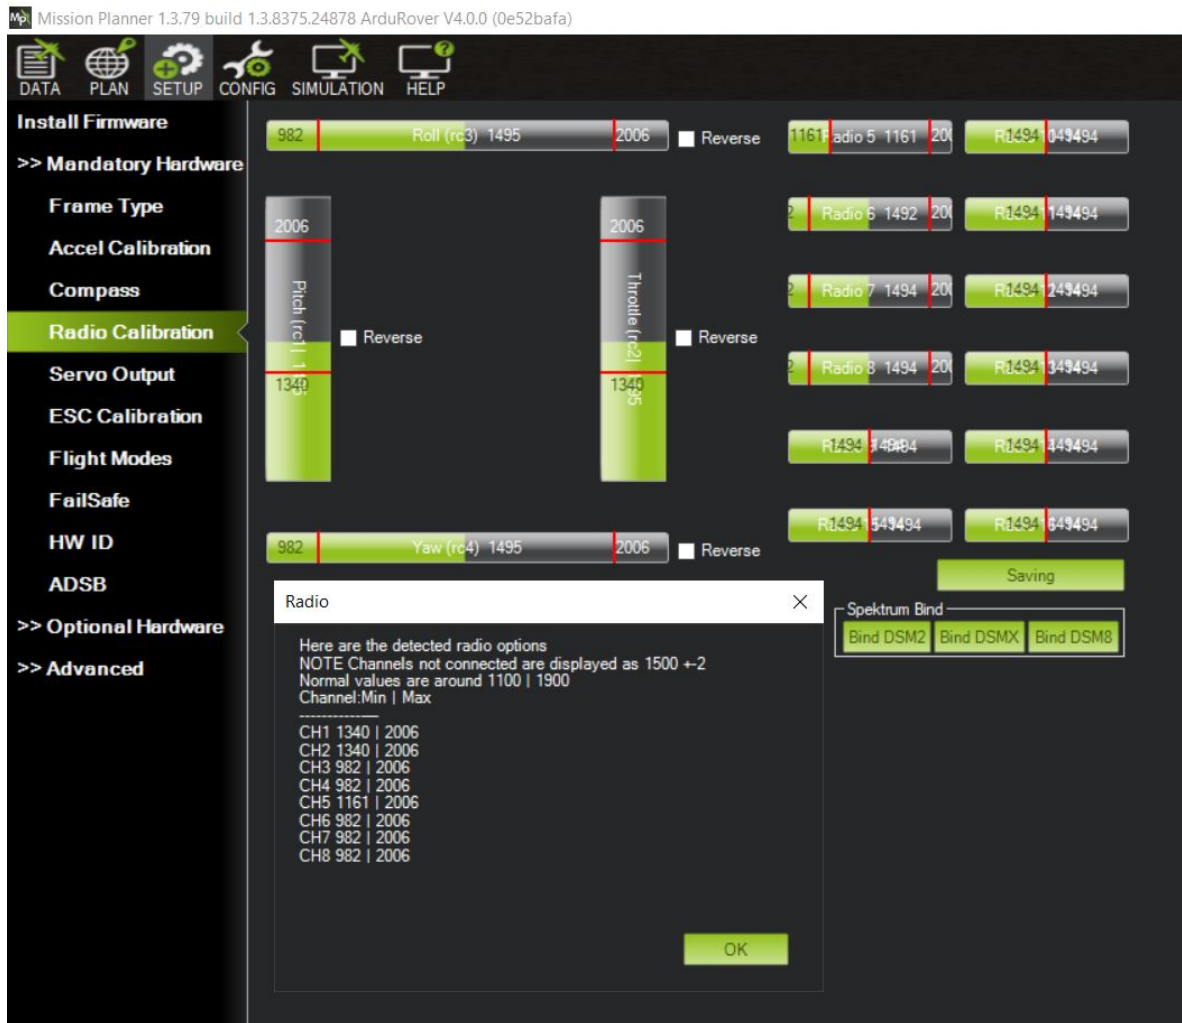

Figure 59: Radio Calibration Verification
13. A page will popup indicating the new min and max values. Press OK. (Refer to Figure 59)